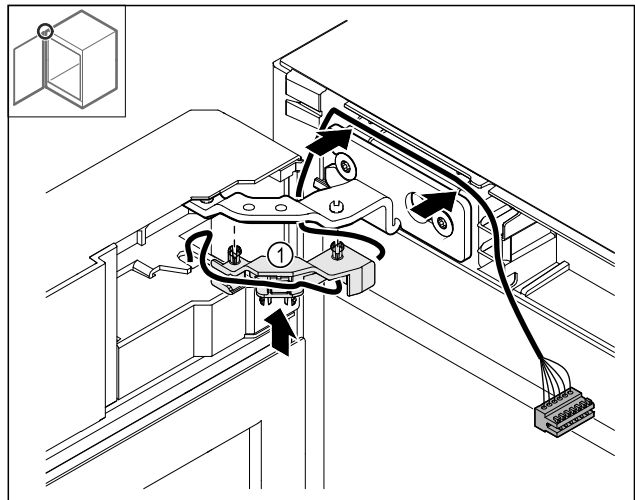

Fig. 48
- ▶ Push the cable holder Fig. 48 (1) into the hinge.